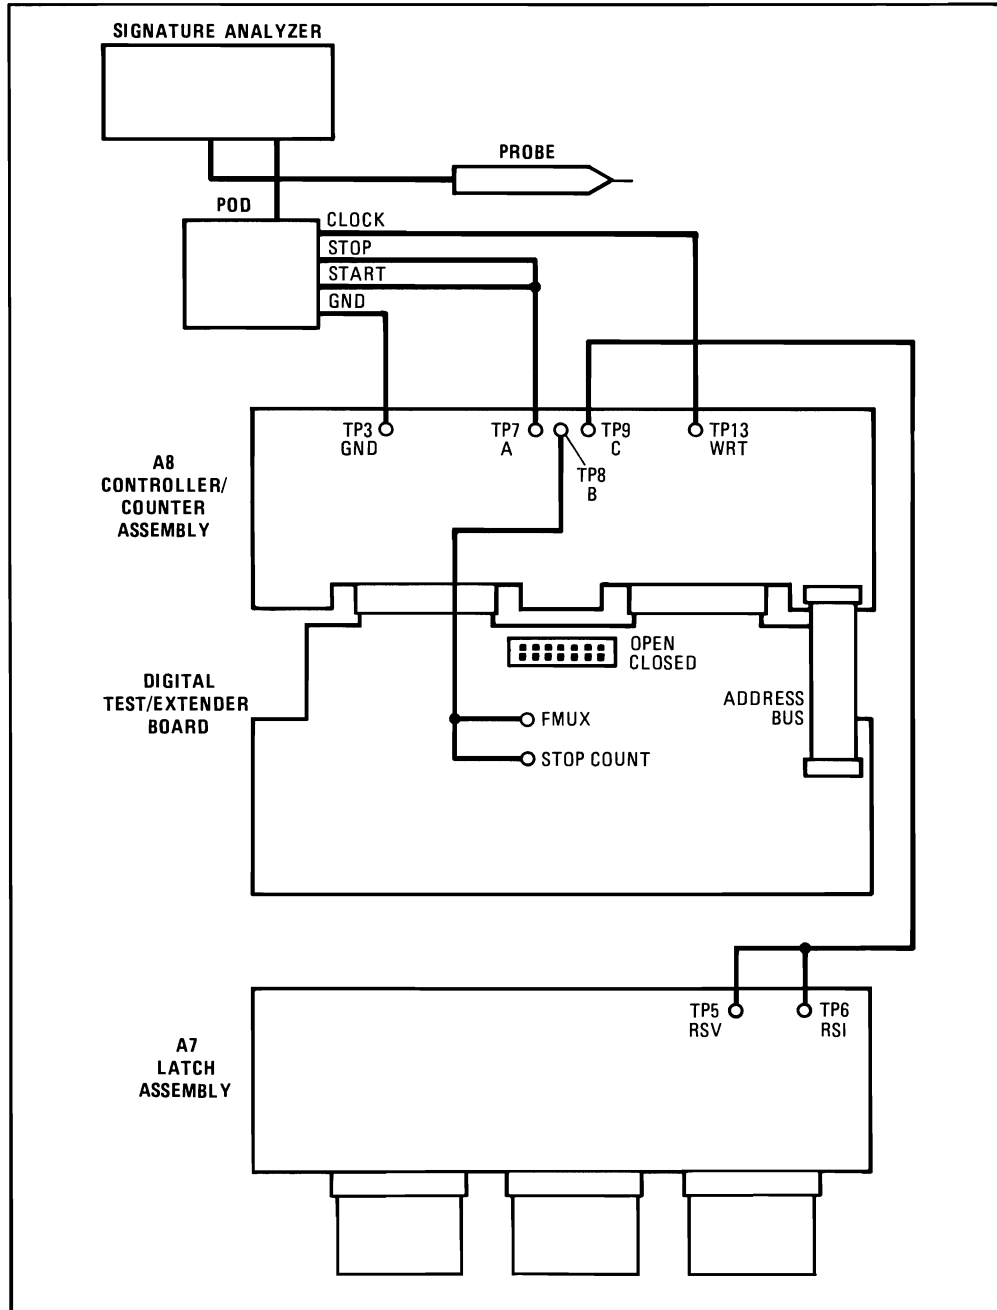

Figure 8-94. Latch Assembly Troubleshooting Setup
2. Interconnect the Controller/Counter Assembly, the Latch Assembly, the extender boards, and the signature analyzer as shown in Figure 8-94. Set the switches on the digital test/extender board to the open position.